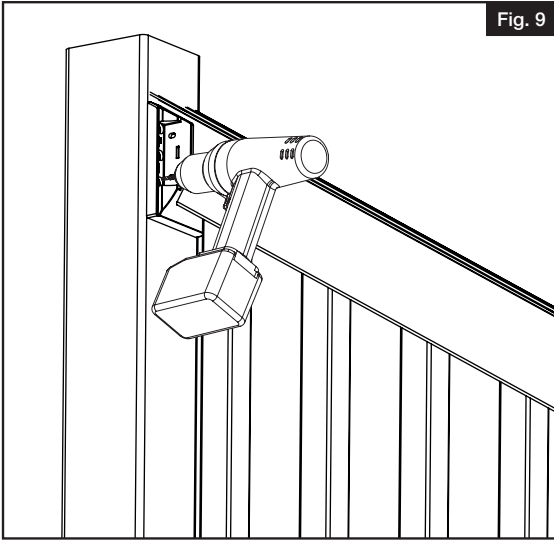

Fig. 9
- a. Make sure rails are fully seated with balusters and level and centered to post sleeve. While holding the top bracket snug to rail from underneath, and using $\frac{1}{8}$ " drill bit, pre-drill first top bracket screw hole (Fig. 9). Drill through bracket hole, vinyl post sleeve and vinyl insert and loosely install first #10 x $1\frac{1}{2}$ " screw.